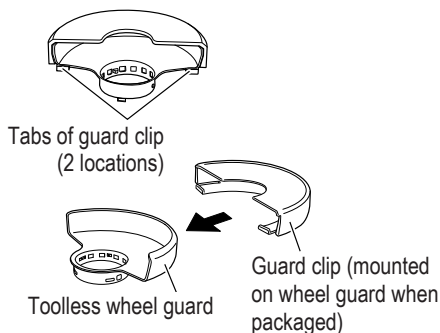

Fig. 9
3. Attaching and removing the guard clip (Fig. 9)